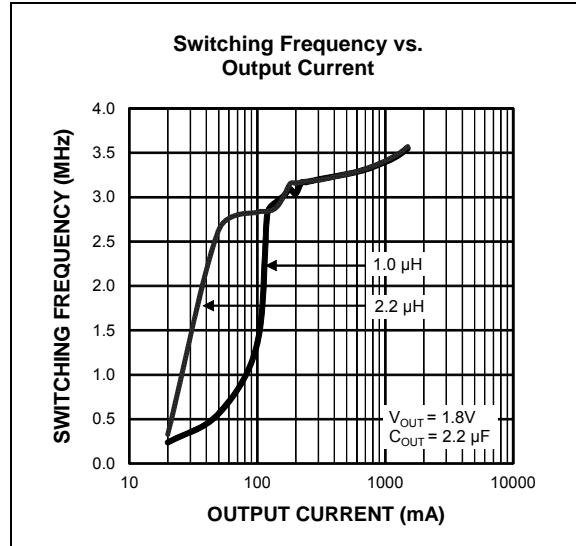

FIGURE 5-3: SW Frequency vs. Output Current.
As shown in Equation 5-5, the load at which the MIC23156 transitions from HyperLight Load mode to PWM mode is a function of the Input Voltage (V_{IN}), Output Voltage (V_{OUT}), Duty Cycle (D), Inductance (L) and frequency (f). As shown in Figure 5-3, as the output current increases, the switching frequency also increases until the MIC23156 goes from HyperLight Load mode to PWM mode, at approximately 200 mA. The MIC23156 will switch at a relatively constant frequency, around 3 MHz, once the output current is over 200 mA.